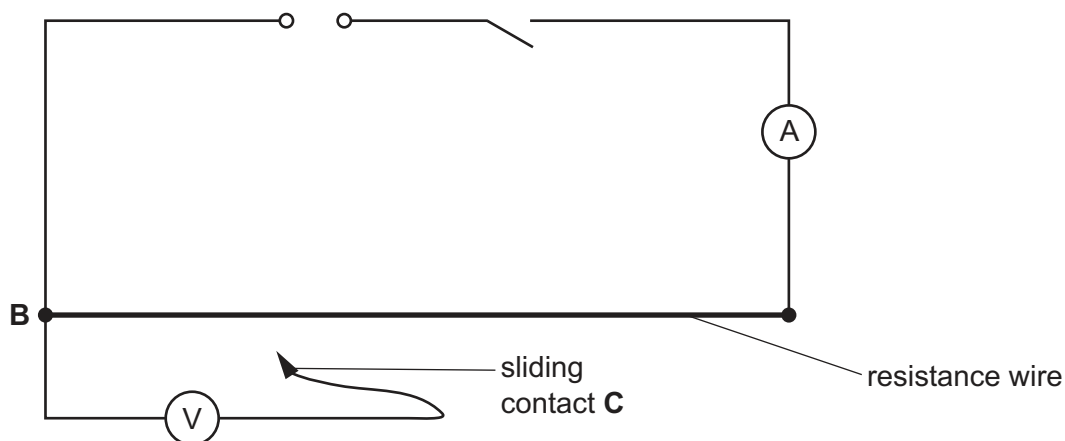

Fig. 2.1
- (vi) Two suitable terminals (e.g. crocodile clips) attached to the constantan wire at the ends of the metre ruler so that connections can be made to the circuit shown in Fig. 2.1.
- (viii) Sufficient connecting leads to set up the circuit shown in Fig. 2.1.
1. The circuit is to be set up for the candidates as shown in Fig. 2.1.
Check that the circuit is arranged as shown in Fig. 2.1.